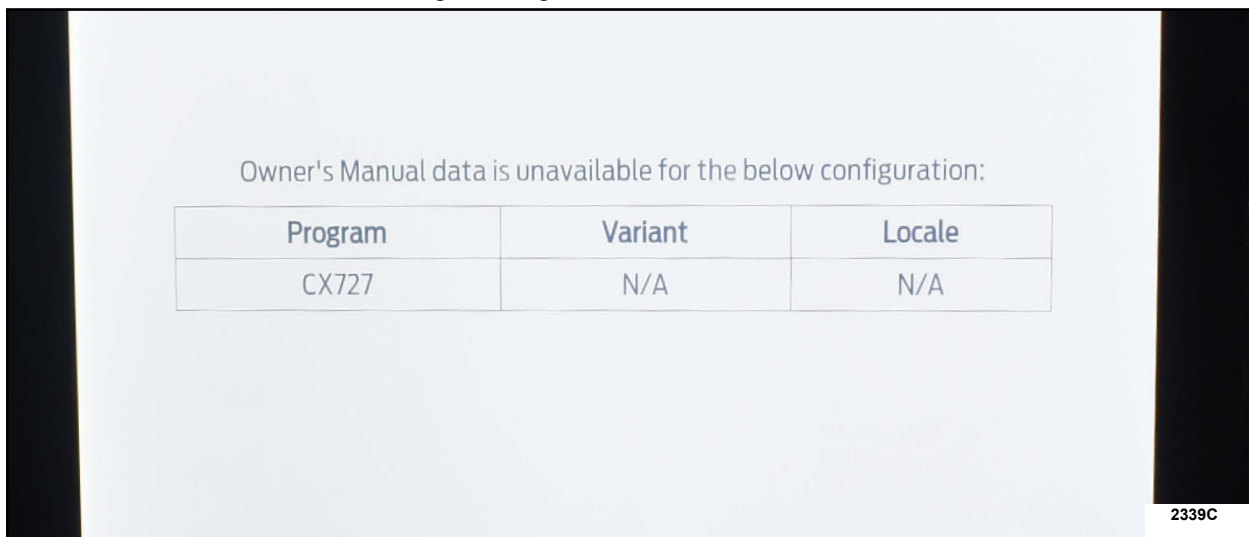

FIGURE 2
3. Does an error appear on the SYNC screen? See Figure 2.